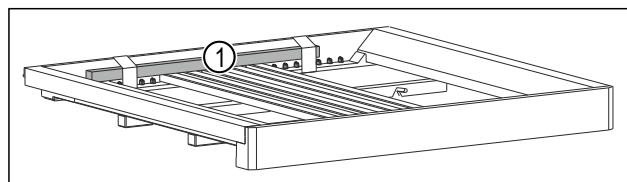

Fig. 5
- ▶ Remove the wooden stick Fig. 5 (1).